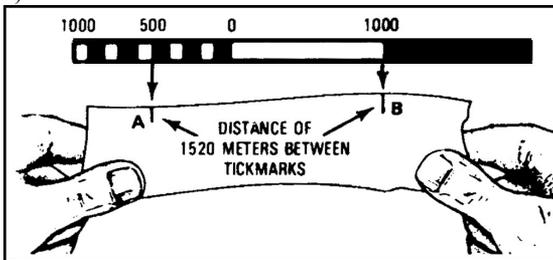

Figure 071-329-1008-5. Distance between beginning and ending points
- (1) Repeat steps 3d and 3e until the end-point falls within the bar.
- (2) Add 4,000 meters to the value you derived in step 3f(1) for each time you performed step 3d to achieve the total distance.
- d. Align the marks on the paper with the appropriate bar scale (figure 071-329-1008-5).